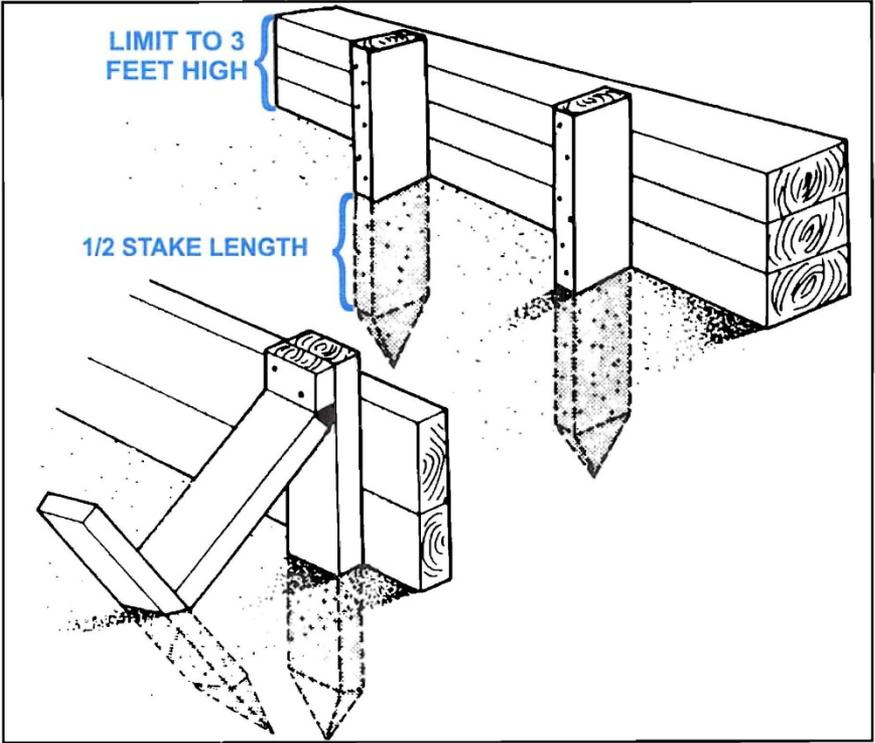

Fig. 16 TYPICAL TIMBER INSTALLATION
- DRIVE** stakes to at least one-half their length to ensure proper anchorage (Fig. 16, page 20).